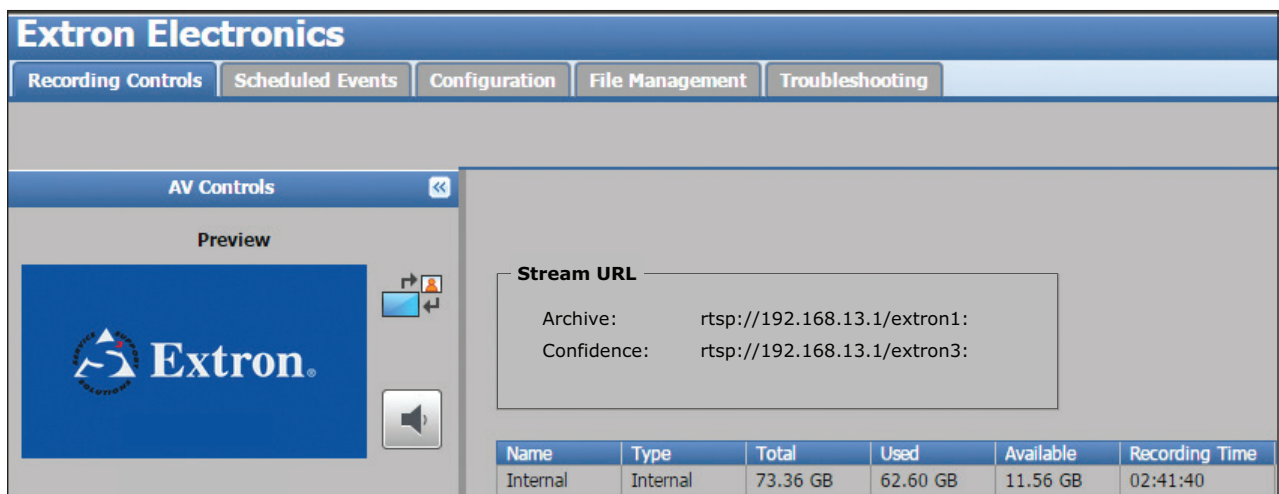

Figure 68. Recording Controls Page
2. The **Recording Controls** page opens. In the **Stream URL** panel, if the archive and confidence streams are set to **Pull** (see Push Stream and Pull Stream Playback URLs on page 128), the box displays the URL necessary to request a stream from the SMP 351. Note the full URL for later reference (in figure 68, the url is `rtsp://192.168.13.1/extron1`).